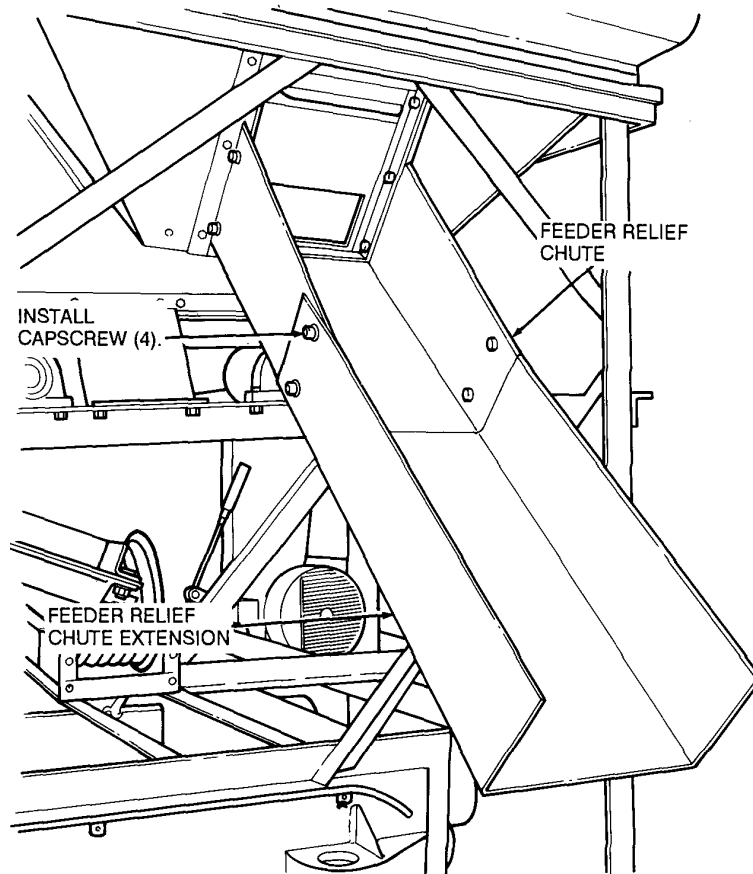

Figure 15. Feeder relief chute extension, installed position.
- l. Remove the feeder relief chute extension from stowed position (fig. 14). Install the feeder relief chute extension on the feeder relief chute (fig. 15).